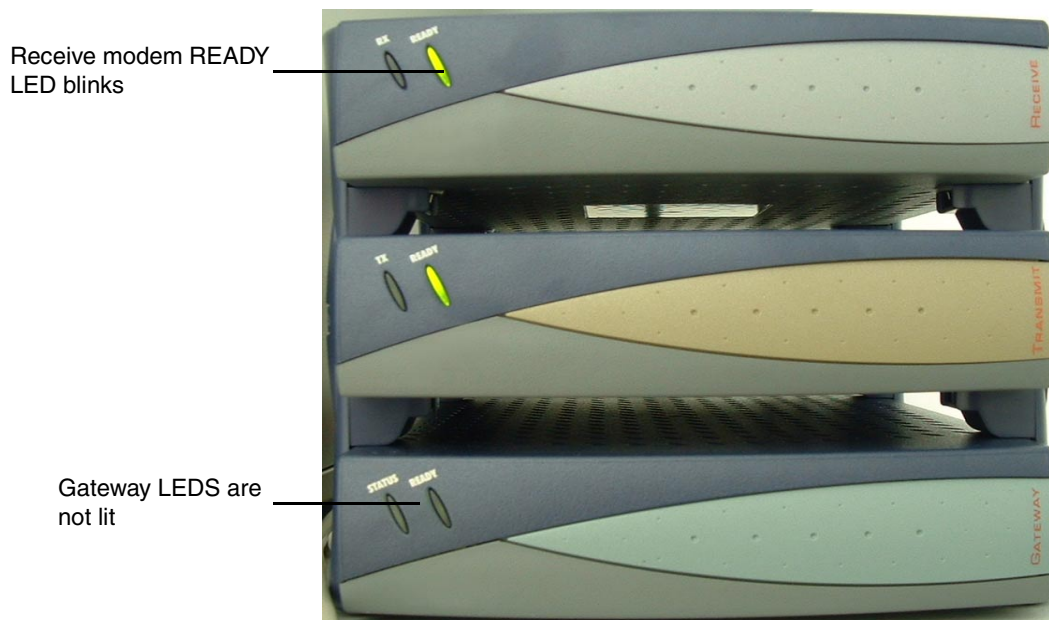

Figure 48: Gateway LEDs not lit
**Gateway LEDs not lit** If the Gateway does not seem to be functioning and its LEDs are not lit, and the receive modem READY LED blinks as shown in Figure 48, take the following steps.
If the Gateway does not seem to be functioning and its STATUS LED flashes amber, and the receive modem READY LED blinks or is not lit, as shown in Figure 48, take the following steps.